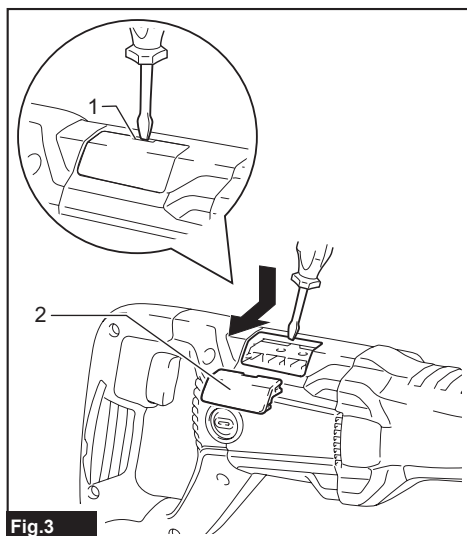

Fig.3
► **Fig.3:** 1. Notch 2. Cover